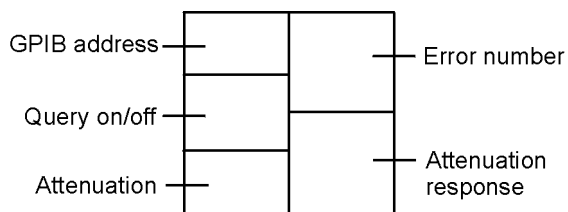

Figure 8: Implementing the Attenuation Driver
1. Insert att.vi and wire it as shown in Figure 8. The inputs are displayed on the left side; the outputs are displayed on the right side.